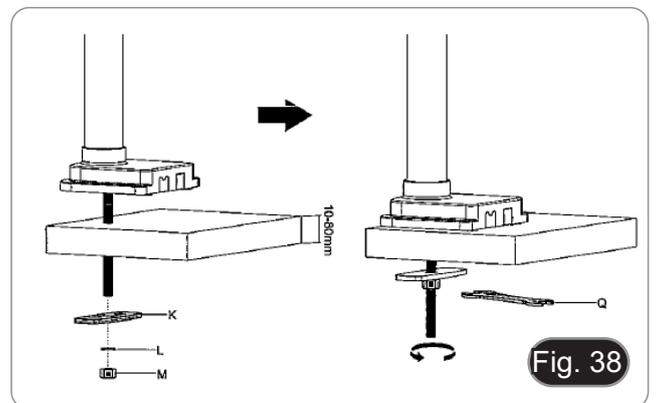

Fig. 38
6. Insert the screw (I) into the hole of the table.
7. Fix the assembly using the fixing plate (K), the washer (L) and the nut (M).
8. Tighten the nut using the spanner (Q). (Fig. 38)